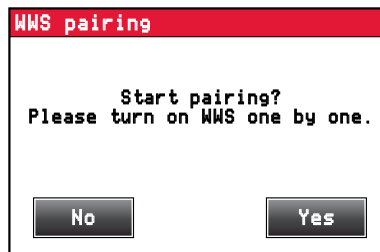

Figure 3-7. Start Pairing
9. Press **PAIR** to start pairing process. A prompt displays (Figure 3-7). Do not press anything at this time.
12. Press **Yes** in the prompt window (Figure 3-7) to start the pairing process. **Connecting...** displays alongside the ID number.